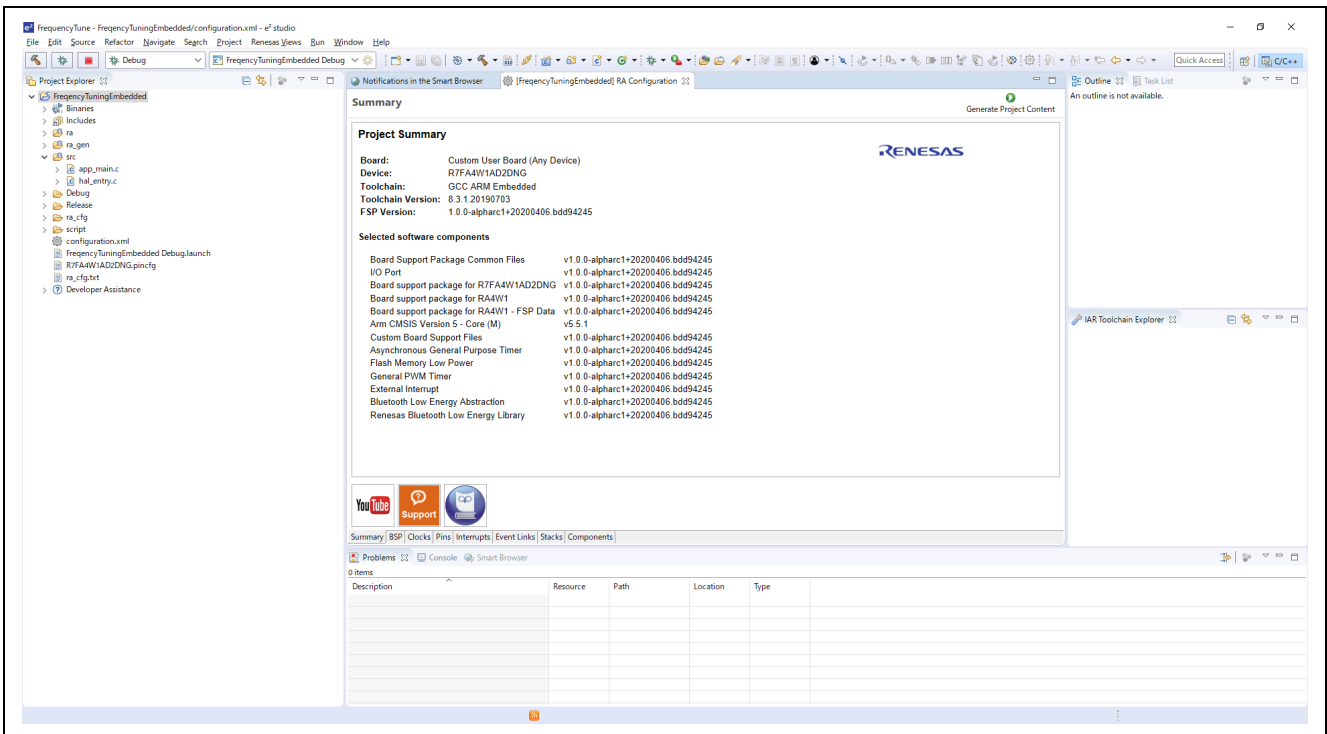

Figure 6-7. RA configurator after import project
9. Click [Project] → [RA configurator] and then following dialog will appear (Figure 6-7)